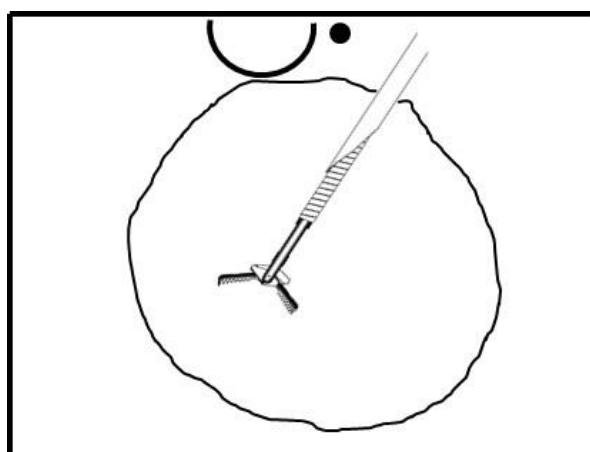

Figure 4
10. OPEN the jaws by moving the Slider distally from the Thumb Ring in a controlled fashion. (See Figure 4)